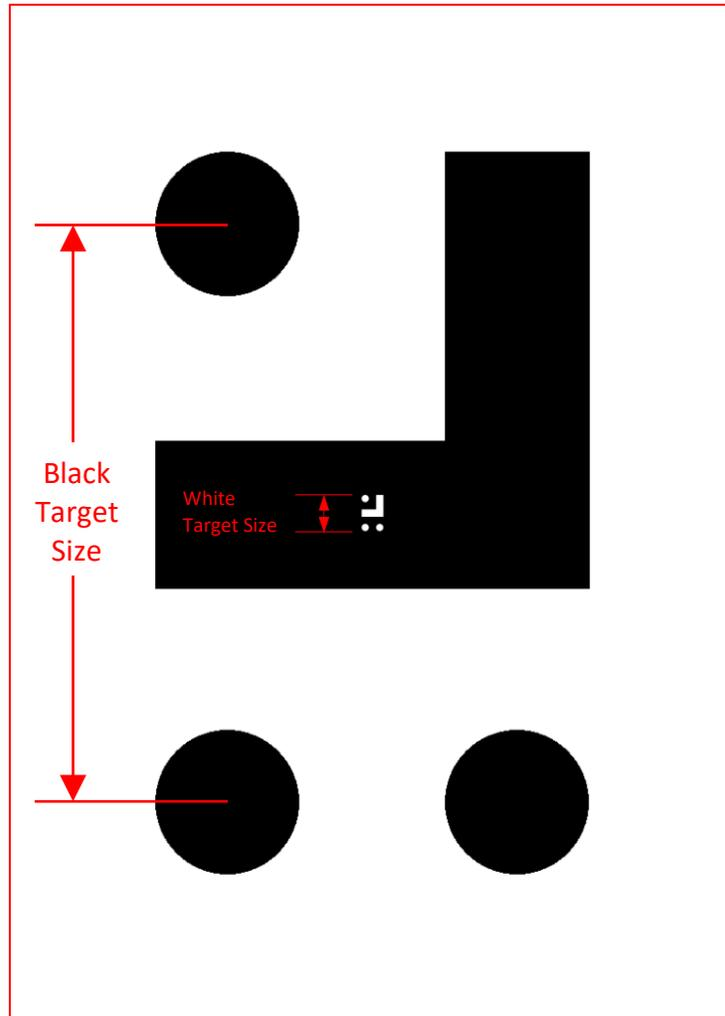

Figure 2: Landing Pattern Target Size
**Black Target Size:** Measure the vertical distance between the centers of the two black dots of the printed landing pattern as shown in Figure 2.